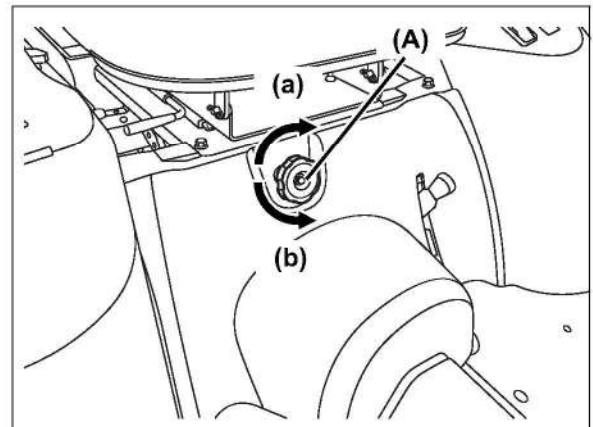

Fig 5-36
### (25) Hydraulic flow control/stop knob (Fig 5-36)